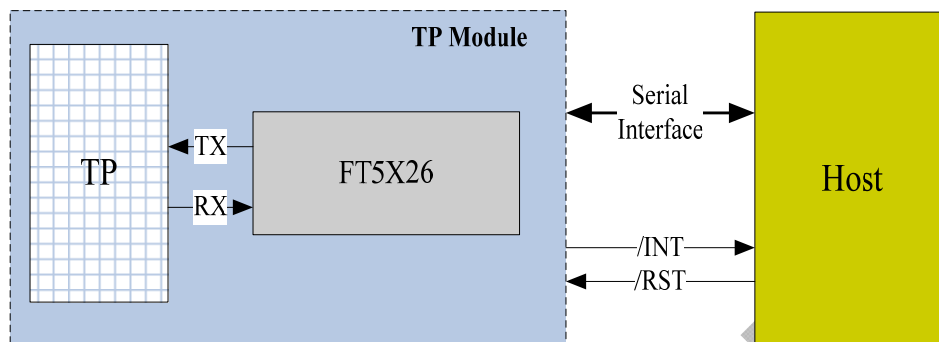

Figure 2-3 Host Interface Diagram
**Figure 2-3** shows the interface between a host processor and FT5X26. This interface consists of the following three sets of signals: